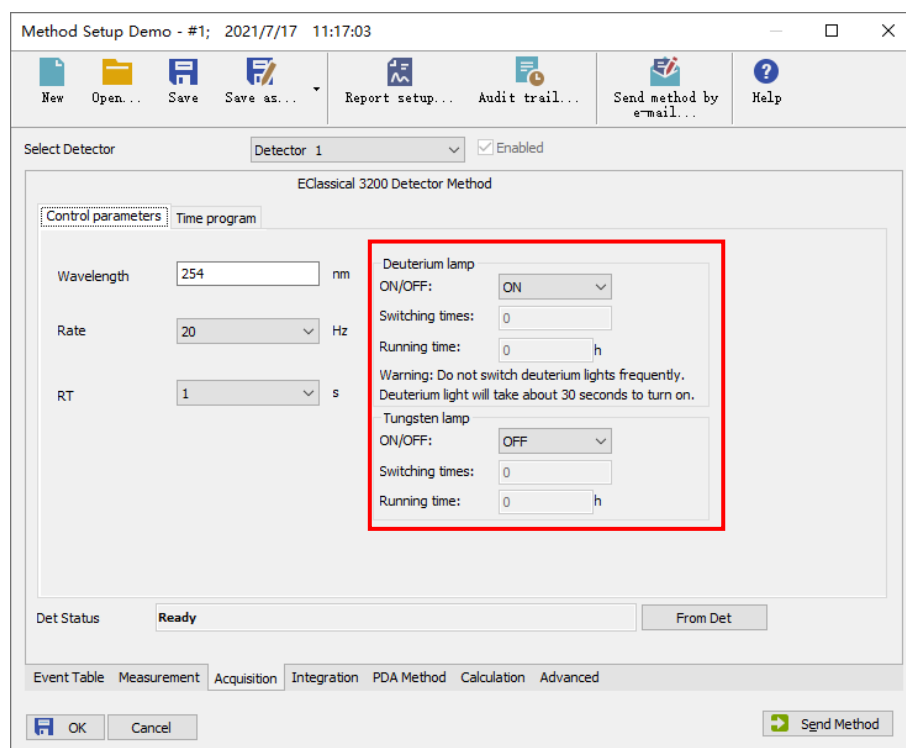

Figure 3-4 Light source setup
- 2) Choose “Acquisition” tab, and set the status of both lamps (on or off), as the red frame marked in Figure 3-4.
As shown in Fig. 3-4, detection wavelength can be set for D3210 in “Control parameters” tab, ranging from 190-800nm. Click “OK” to save and accomplish single detection wavelength setup.